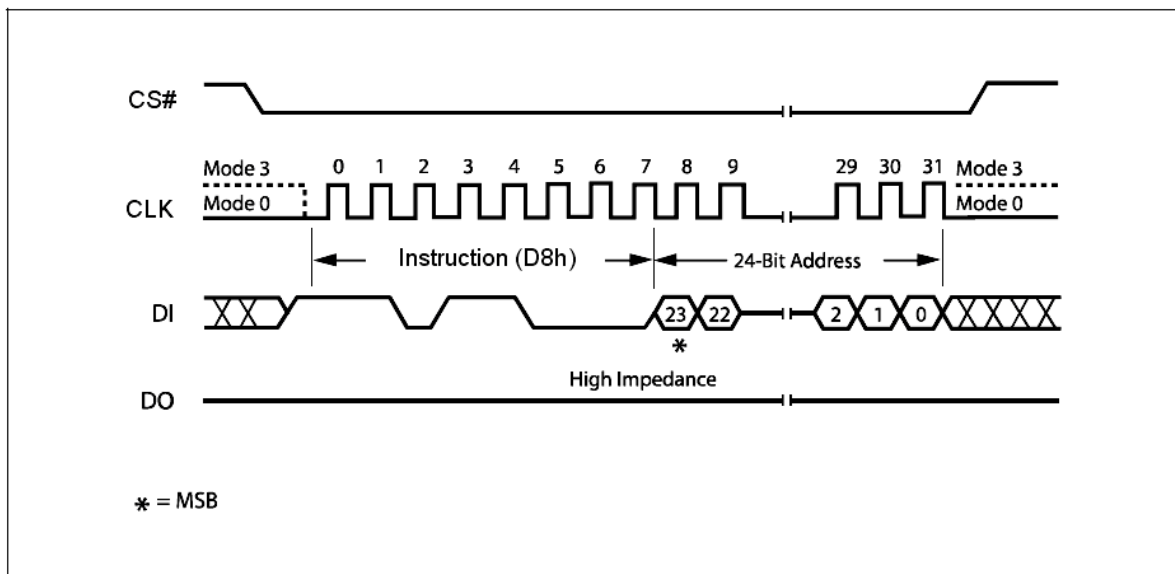

Figure 24. Block Erase Instruction Sequence Diagram
The instruction sequence is shown in Figure 24. Chip Select (CS#) must be driven High after the eighth bit of the last address byte has been latched in, otherwise the Block Erase (BE) instruction is not executed. As soon as Chip Select (CS#) is driven High, the self-timed Block Erase cycle (whose duration is t_{BE}) is initiated. While the Block Erase cycle is in progress, the Status Register may be read to check the value of the Write In Progress (WIP) bit. The Write In Progress (WIP) bit is 1 during the self-timed Block Erase cycle, and is 0 when it is completed. At some unspecified time before the cycle is completed, the Write Enable Latch (WEL) bit is reset.